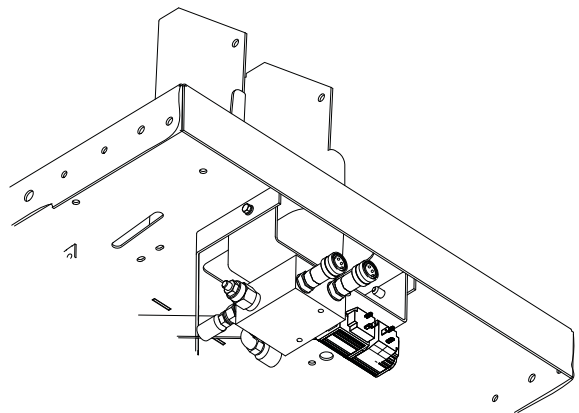

Fig. 5
4. Attach the two hoses to the ports on the Auxiliary Hydraulic Services valve fitted underneath the operators platform (Fig. 5).